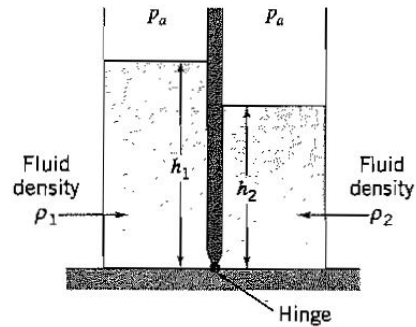

Figure P2.25
2.25 A gate of width W stands vertically in a tank, as shown in Figure P2.25, and it is connected to the bottom of the tank by a frictionless hinge. On one side the tank is filled to a depth h_1 by a fluid density ρ_1 ; on the other side it is filled to a depth h_2 by a fluid density ρ_2 . Find h_2/h_1 in terms of ρ_2/ρ_1 if the gate is in static equilibrium.